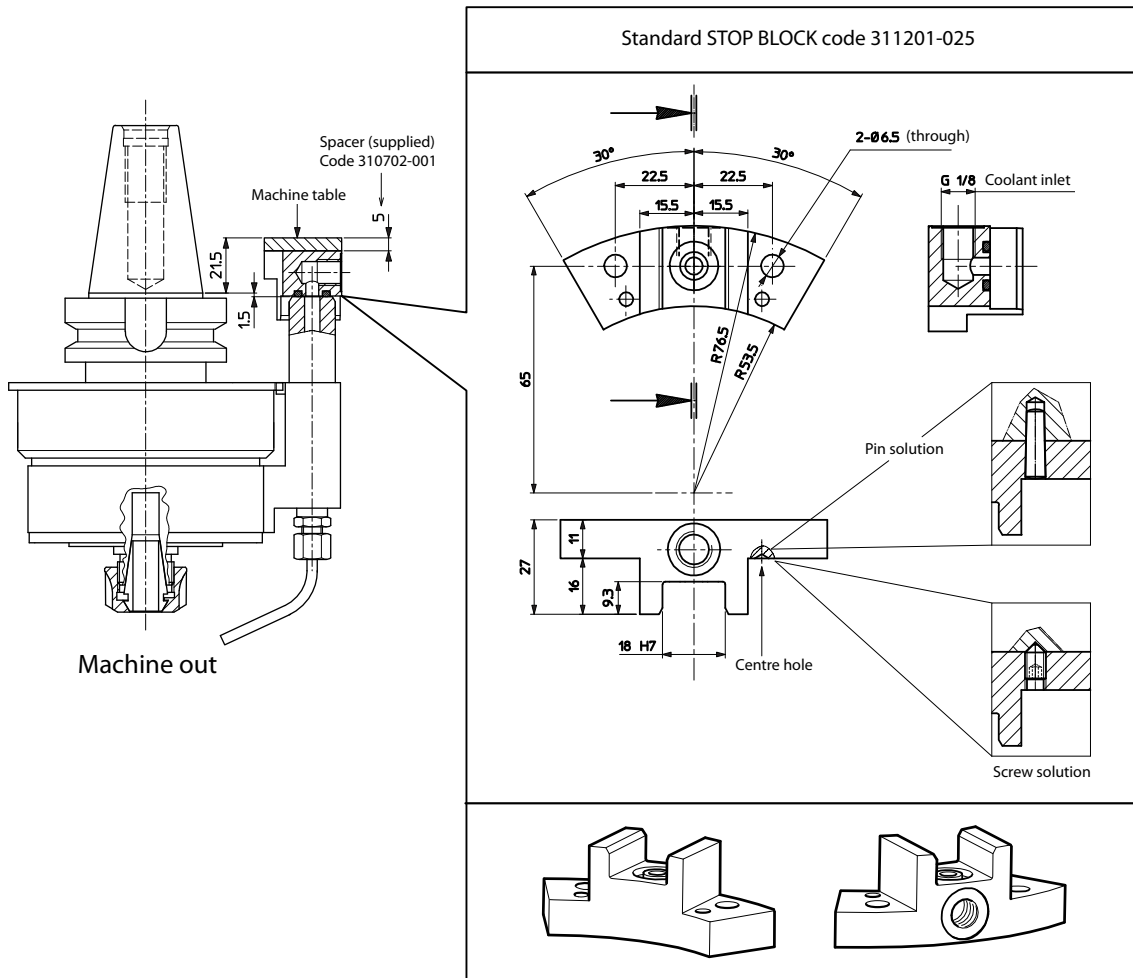

Fig. 6
- Insert the Stop-Bar pin into the dedicated stop-block slot by following the instructions reported in **Fig. 6 paragraph 7.1** of this manual.